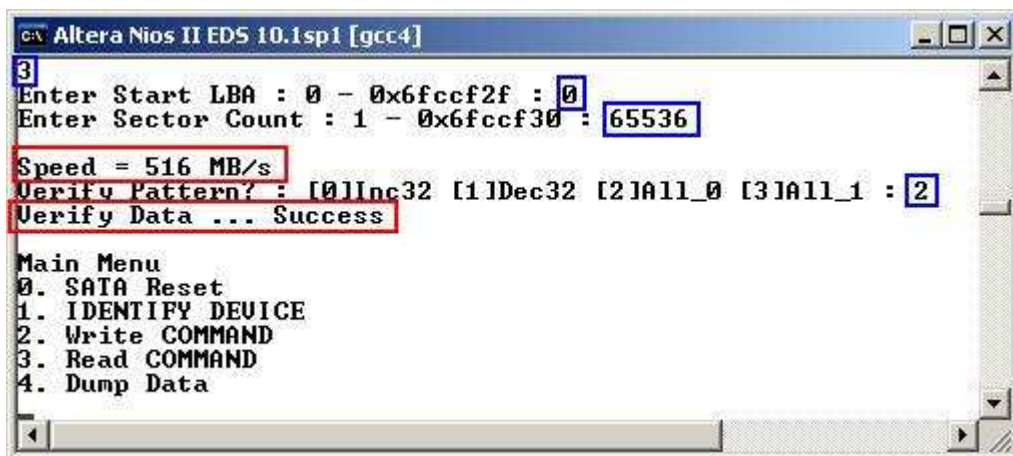
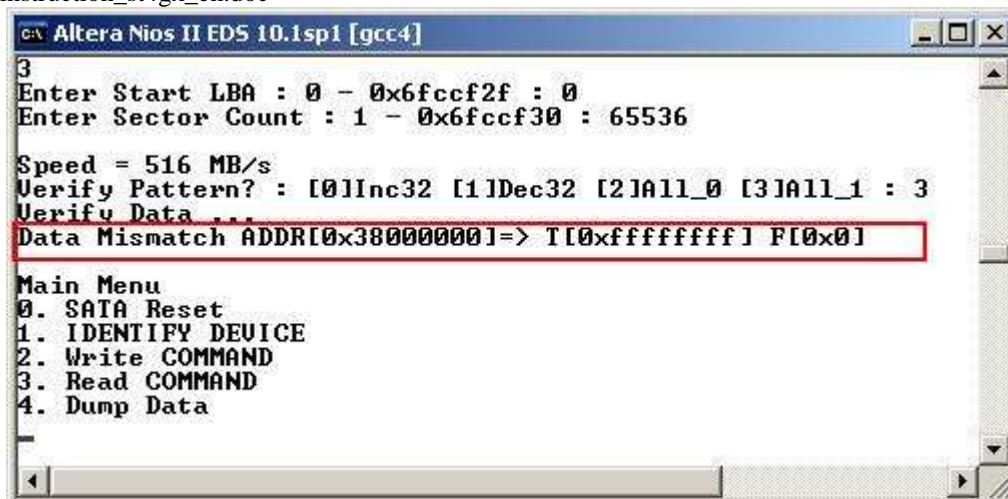

Figure 15 READ COMMAND with verify successful
Figure 16 READ COMMAND with verify failure
- Verify Pattern: this menu will be displayed if Sector Count value is not more than 65536. 4 verify patterns can be selected, like in WRITE COMMAND menu. "Verify Data ... Success" will be displayed if all data in read buffer is equal to check pattern, as shown in Figure 15. But "Data Mismatch with failure value" will be displayed instead if data is not equal, as shown in Figure 16.